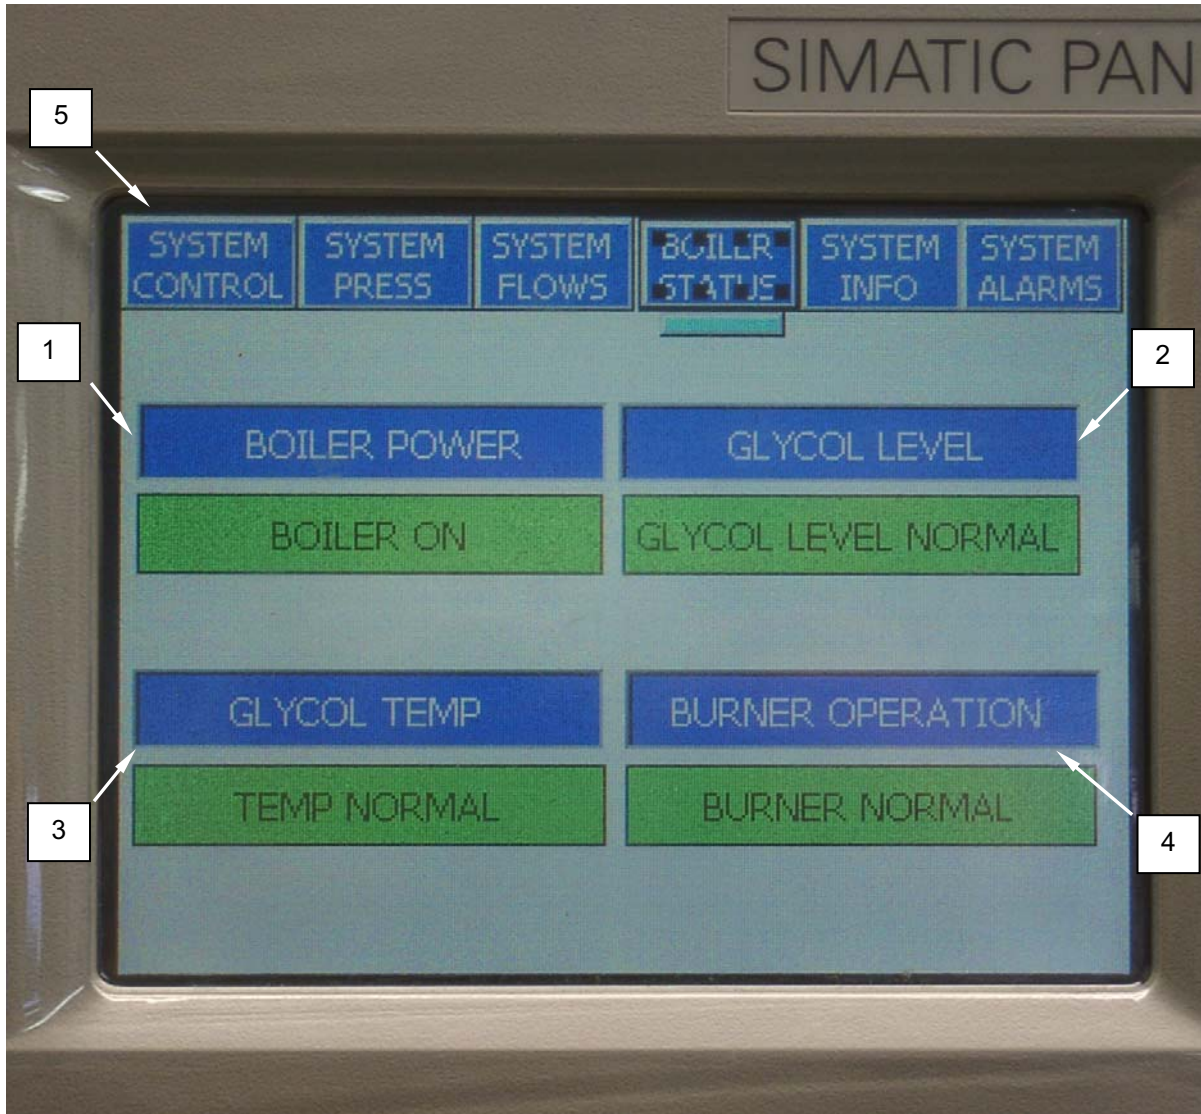

Figure 19. Boiler Status Display.
The PLC will show the display in Figure 19. The green bars indicate the status of the boiler electrical power (**Figure 19, Item 1**), boiler glycol level (**Figure 19, Item 2**), boiler glycol temperature (**Figure 19, Item 3**), and burner operation (**Figure 19, Item 4**). The PLC indicates normal operation by displaying green. The PLC monitors the boiler glycol level, glycol temperature, and burner control module. In the event of an alarm condition the PLC will display this item in RED and generate an alarm. See the alarm section for further details.
2. Press System Control (**Figure 19, Item 5**) to return to the System Control menu.